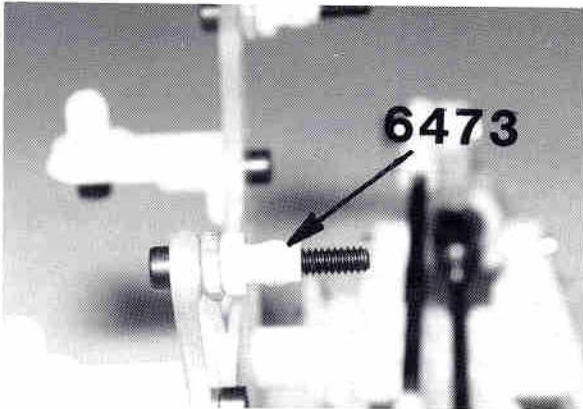
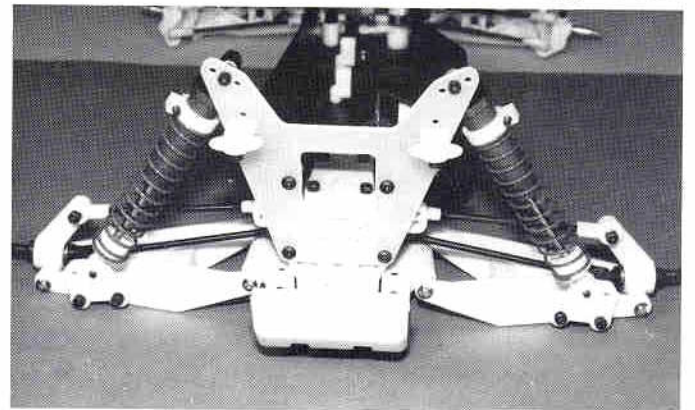

Fig. 178
Fig. 181
□ **Figs. 178, 179, 180 & 181** Take the two #6473 nylon shock bushings, two #6925 4-40 x 1/2" SHCScrews, and two #6222 4-40 black self threading nylon locknuts from bag #7-9. We want to install the #6473 bushings onto the upper rear shock mounting screws with the flange against the 4-40 plain nut. Now slide the shock cap eyelet onto the shock bushing. Take one of the #6222 black locknuts and thread it onto the upper shock mounting screw as shown in fig. 179. Take the #6925 screws and install it through the #7660 rear shock/turnbuckle pivot ball, from the front, and then thread the #6925 screw into the innermost hole of the #7657 rear arm shock mount. Now go ahead and install the other shock the same way. Fig. 181 shows both rear shocks installed.